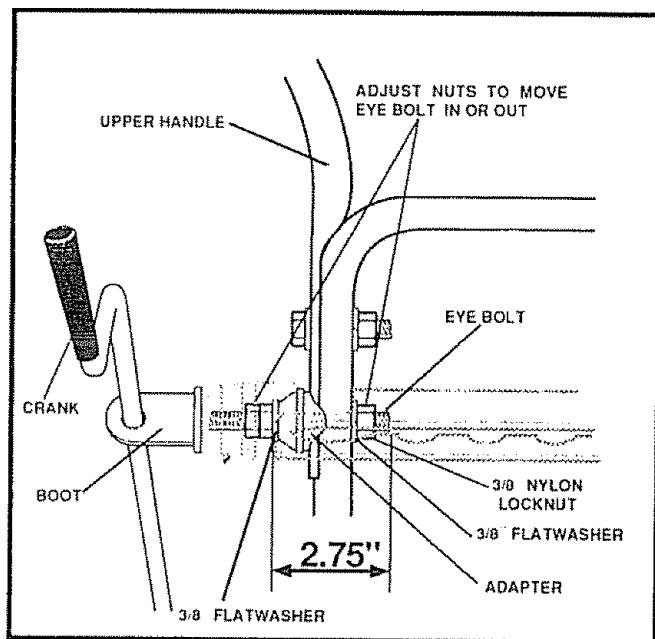

FIG. 4B
- Remove the 3/8" nylon locknut and flatwasher from the eye bolt assembly. Check to make sure the two 3/8" jam nuts are tight. The jam nuts should be 2.75 inches from the end of the eye bolt (Fig 4B).
- Install the chute crank eye bolt through the lower handle hole on the left hand side. Make sure that the left side of the shifter plate is installed over the threaded end of the eye bolt. Install the flatwasher, lockwasher and locknut (See Fig 4B).